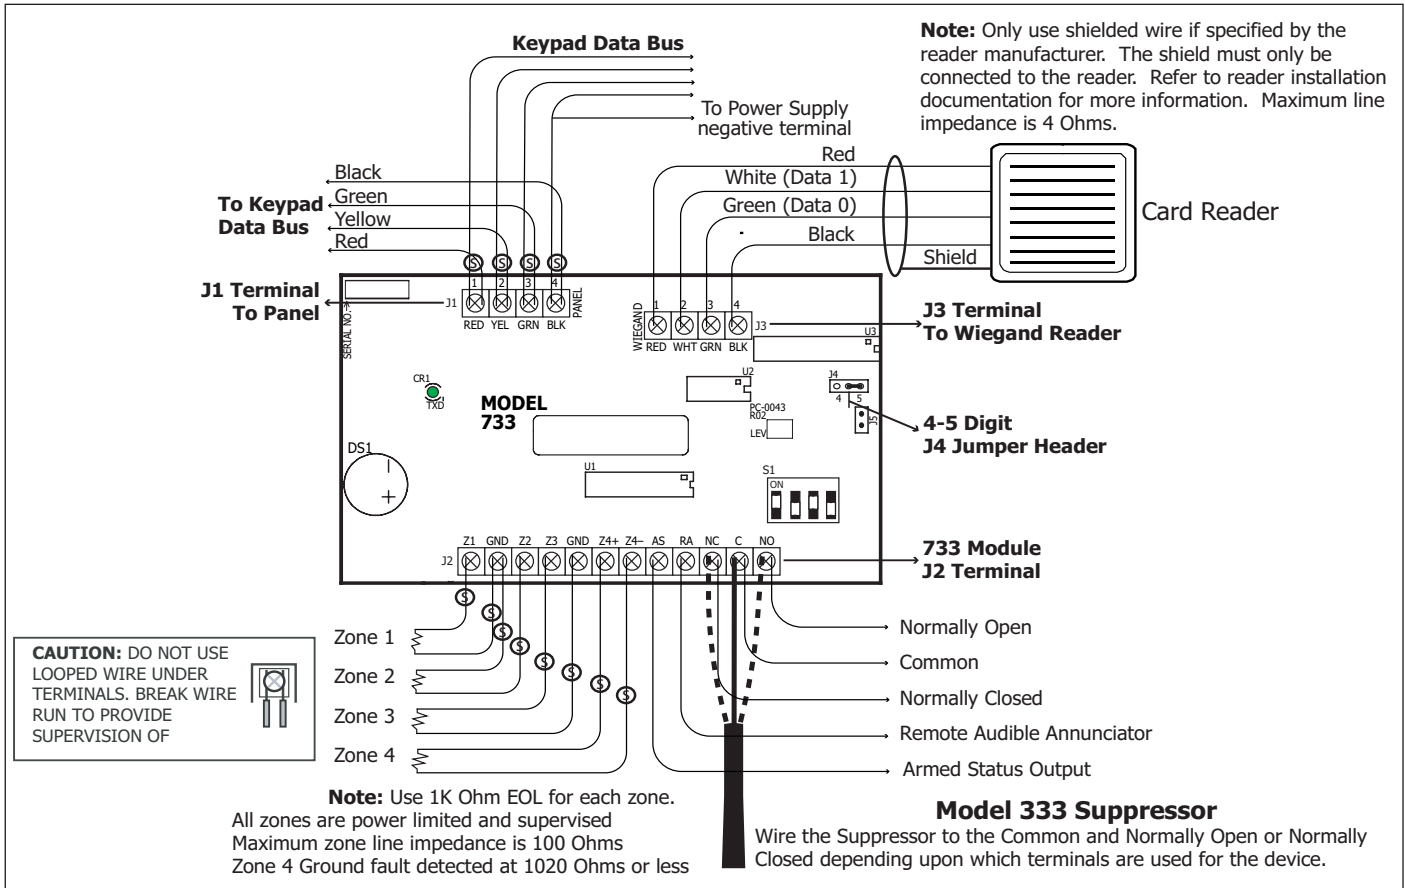

Figure 1: 733 Wiring Diagram
One Model 333 Suppressor is included with the 733 Module. Refer to Figure 1 and install the suppressor across the 733 Common (C) and Normally Open (NO) or Normally Closed (NC) terminals on J2. This suppressor replaces a diode that shipped with early 733 modules.
If the device being controlled by the relay is connected to the NO and C terminals, install the suppressor on the NO and C terminals as well. Conversely, if the device is connected to the NC and C terminals, install the 333 Suppressor on NC and C terminals. See Figure 1.
Figure 1 shows the J4 location. If you are using 4-digit codes, place the 4/5 digit jumper (J4) across the two left pins. If you are using 5-digit codes, place the 4/5 digit jumper (J4) across the two right pins. Refer to the User Code Digits section to determine the setting for your installation.
Connect the supervised 4-wire keypad bus to the Panel terminals marked Red, Yellow, Green, and Black as shown in Figure 1. If you are continuing the wire run to another 733 Module or to a keypad, connect both wires of the same color under the same terminal as shown in Figure 1.
Figure 1 shows a reader with wires colors Red, White, Green, and Black. The wire colors may be different for the reader being installed. Connect the reader wires to J3 terminals 1, 2, 3, and 4. As shown in Figure 1, the Green wire provides D0, or Data Zero, and the White wire provides D1, or Data One. The Red wire provides 12 VDC output and the Black wire is ground. Refer to the literature provided with the reader for wire coding, wire distance, cable type (such as shielded), and other specifications. If you are powering the readers from an auxiliary power source, refer to **12 VDC Access Control Readers** later in this document.